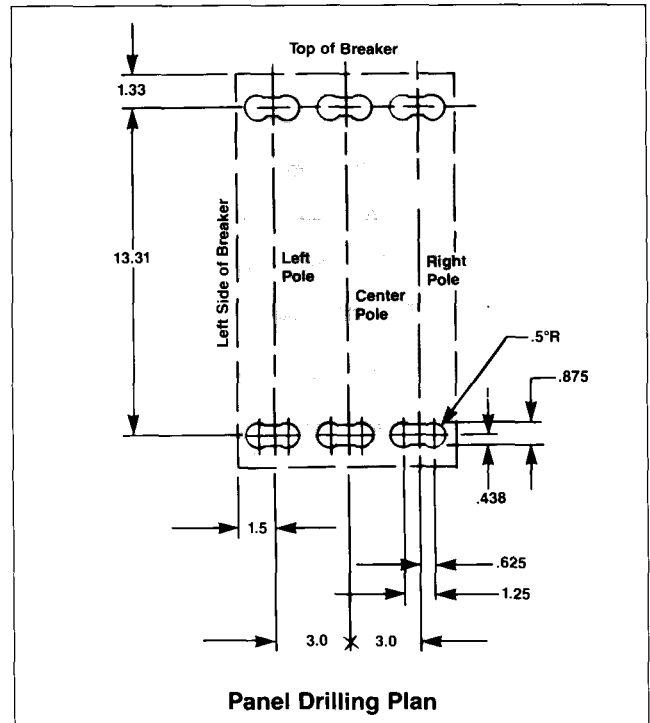

Figure 1
- B. Drill mounting panel as shown in drilling plan, Figure 1. This user provided panel must be made from a material acceptable for supporting uninsulated live parts and have adequate strength to support the circuit breaker. Thickness should be 1/4 in. min. and 1 in. max.
- C. Figures 1 and 2 show dimensioning information which can be used to plan the circuit breaker termination interface.